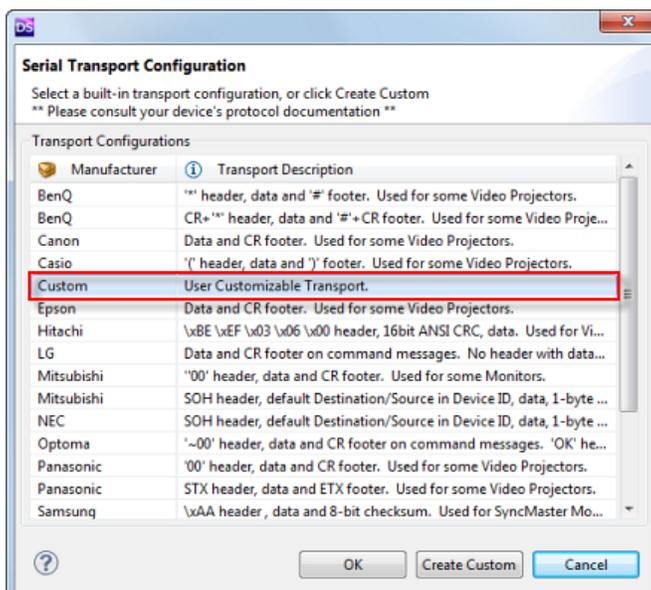

FIG. 42 <Serial or TCP/IP> Transport Configuration dialog - "Custom" selected
2. In the <Serial or TCP/IP> Transport Configuration dialog, select **Custom** in the *Transport Configurations* list (FIG. 42):